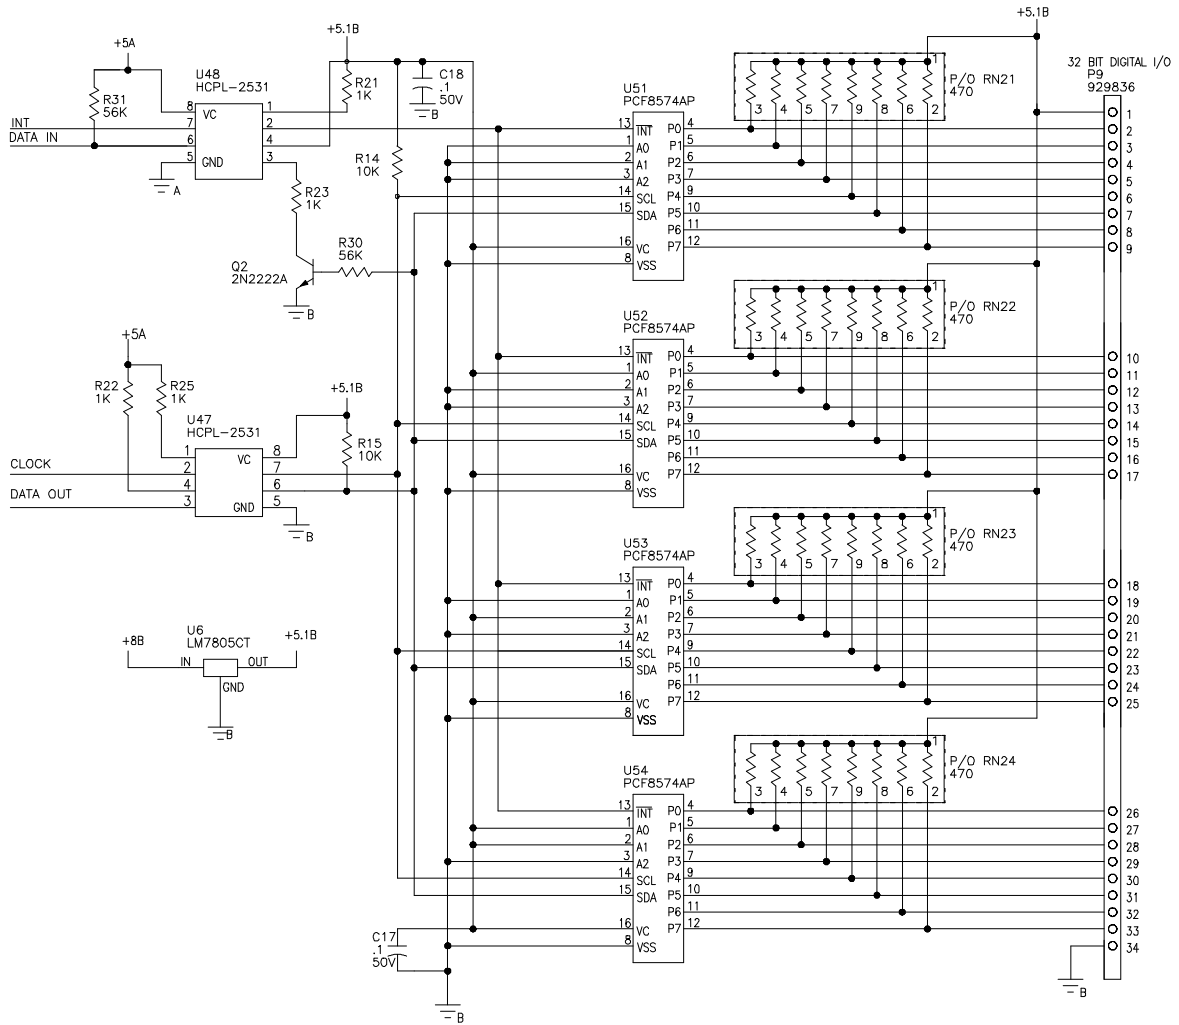

Figure 9, Digital I/O
The digital I/O port IC's, U51-U53, are remote 8 bit I/O expanders for the I2C bus. Their I2C interface is a two wire serial interface. (See Figure 9, Digital I/O)
- k. Individually ground (P9 pin 34) each pin corresponding to each optional digital I/O port (See Figure 9) and verify the readback on the SBCwin screen.
- l. Set and reset each bit of each installed digital I/O port while observing the appropriate pin using a multimeter (see figure 9).